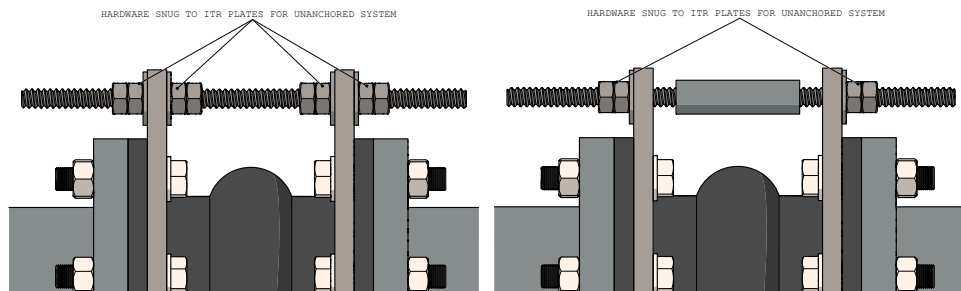

Figure 23: Control Rod Gap for Unanchored System
The control rod gaps and/or compression sleeve lengths are to be determined by the project or site engineer. The combined gaps on the control rods are not to exceed the maximum rated movement capabilities of the supplied expansion joint. For unanchored systems there should be no control rod gaps in the control rod hardware, all hardware on the control rods should be snug to the ITR plates as shown in Figure 23.
- 5.1.1 Follow pressure test instructions set by site engineer. Lock down control rod hardware before pressure test as shown in Figure 23. Pressure test should not exceed 1.5 times operating pressure for 10 minutes. Refer to specified drawing for pressure rating and details.